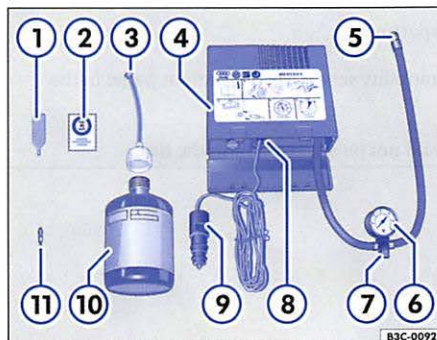

Fig. 187 Basic diagram: Contents of the tire mobility set.
The tire mobility set is stored in the luggage compartment under the floor covering. It contains the following ⇒ fig. 187:
3. Automatic transmission: Shift the transmission into Park (P) ⇒ page 179.
12. Affix the label ⇒ page 337, fig. 187 ② from the tire mobility set on the instrument panel in the driver's field of vision.
- Unscrew the valve core from the tire valve using the valve core wrench $\Rightarrow$ page 337, fig. 187  and place it on a clean surface.
- Vigorously shake the tire inflation cylinder $\Rightarrow$ page 337, fig. 187  a few times back and forth.
- Tightly screw the filling hose $\Rightarrow$ page 337, fig. 187  to the tire inflation bottle (turn clockwise). The foil on the seal is automatically pierced.
- Remove the sealing plug from the filling hose $\Rightarrow$ page 337, fig. 187  and slide the open end all the way onto the tire valve.
- Using the valve core wrench $\Rightarrow$ page 337, fig. 187  screw the valve core back into the tire valve.
- Screw the tire inflation hose $\Rightarrow$ page 337, fig. 187  of the air compressor tightly to the tire valve.
- Check whether the air release valve $\Rightarrow$ page 337, fig. 187  is screwed on tightly.
- Insert the cable plug $\Rightarrow$ page 337, fig. 187  into a 12-volt socket of the vehicle $\Rightarrow$ page 170.
- Switch the air compressor on using the ON/OFF switch $\Rightarrow$ page 337, fig. 187 .
Connect the tire inflation hose ⇒ page 337, fig. 187